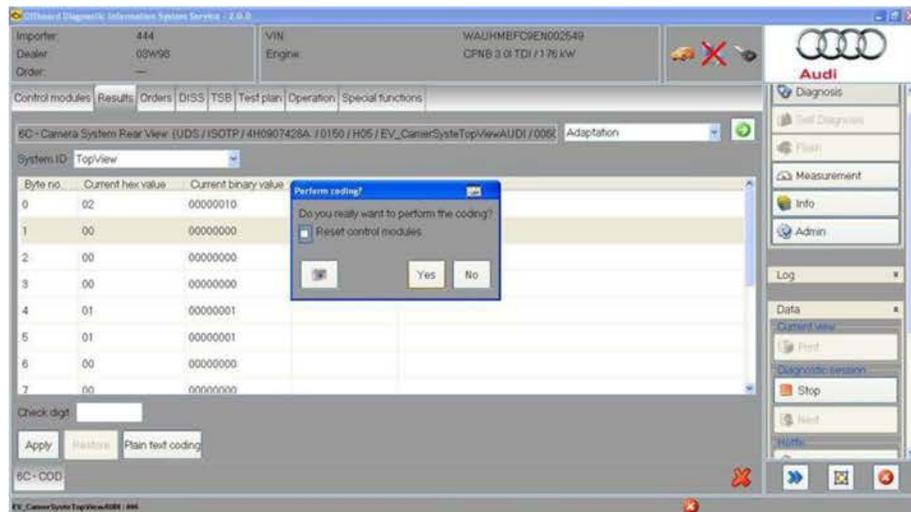

Figure 8. Uncheck 'Reset control modules'. Perform the coding.
6. On the confirmation page, uncheck the option to *Reset control modules*. Select "Yes" (Figure 8). Two more errors will appear, stating that the values cannot be checked, and that the read operation failed. Click past these errors and the new coding value will now be in byte 1.